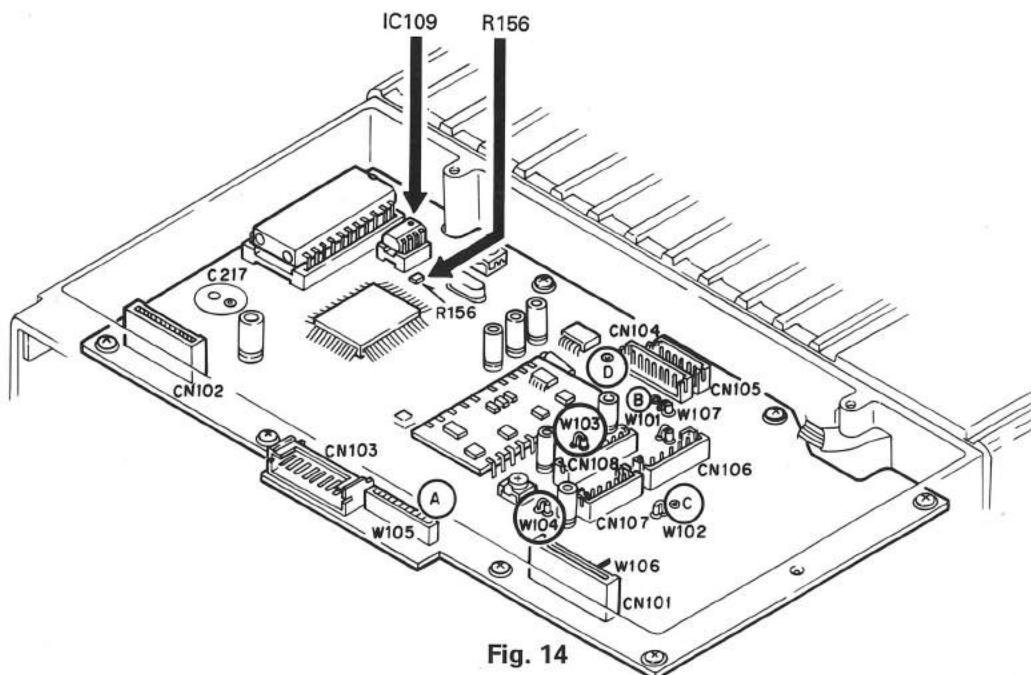

Fig. 14
- 2) Remove IC109 from the control unit (X57-3960 A/3) and install the KCH-5 EEPROM (X24C16PI) by soldering. (Fig. 14)
- 3) Remove R156 (R92-0670-05) of the control unit. (Fig. 14)
- 2) Remove IC109 (X24C04PI) of the control unit (X57-3960 A/3) from the socket, and install the KCH-5 (X24C16PI). (Fig. 14)